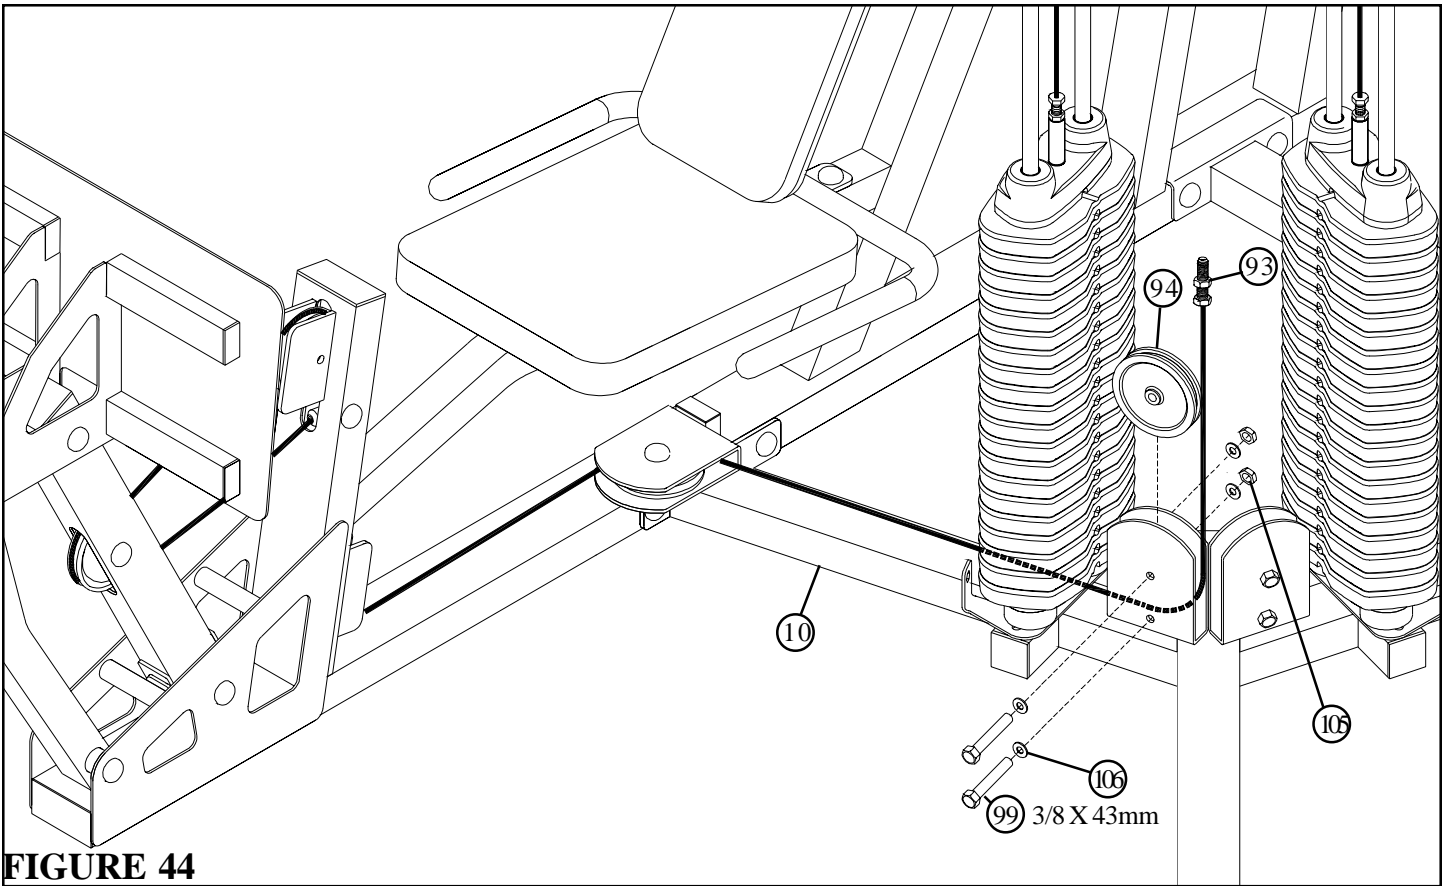

**FIGURE 43**
- Route the LEG PRESS CABLE (93) through the bracket on the LEG PRESS FRAME (85) and assemble one 4-1/2" PULLEY (94) to the bracket on the FRAME (85) using two RH CAPS (109), one 3/8 X 43mm BOLT (99), two 3/8" SAE WASHERS (106), two 3/8" RH WASHERS (107) and one 3/8" LOW HEIGHT LOCK NUT (105) as shown in FIGURE 43.